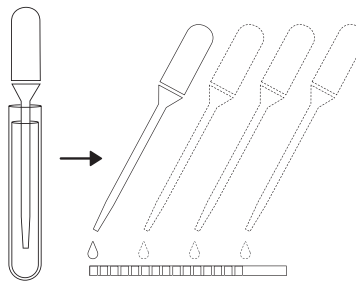

Fig. 12A
6. Apply urine sample to strip. One method for application is to use a dropper pipette to drop urine over entire strip, completely wetting each pad. Do not leave excess urine on strip for more than 2 seconds (Fig. 12A). Alternatively, strip may be dipped into urine sample, completely wetting each pad. Remove the strip after 2 seconds (Fig. 12B).